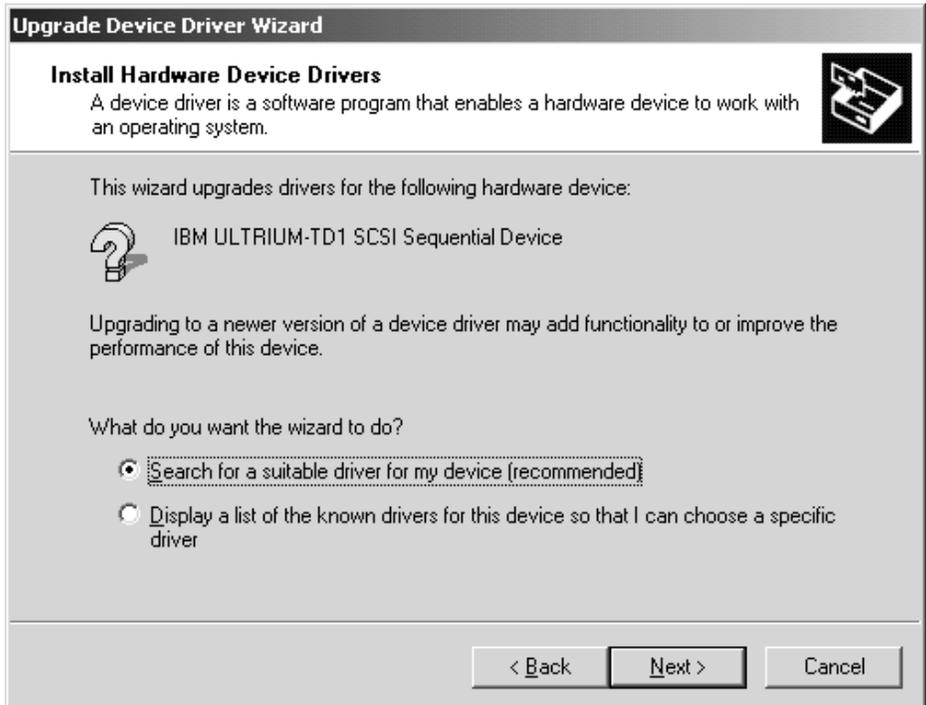

Figure 28. Install Hardware Device Drivers Menu
10. An **Update Device Driver Wizard** window opens. Click **Next** to open the window shown in Figure 28. Check **Search for a suitable driver for my device (recommended)**, then click **Next**.